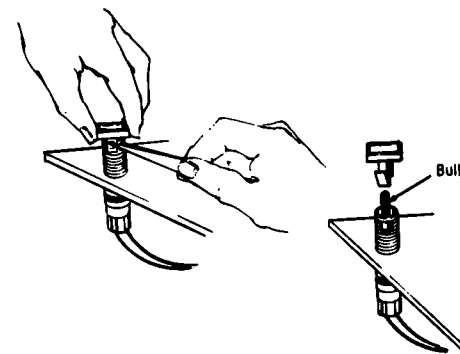

Figure 7-6. REMOVAL AND REPLACEMENT OF PUSHBUTTON SWITCH BULB.
4. See Figure 7-6. Unscrew the nut which secures the defective switch to the faceplate and slide the switch up through the front of the faceplate until the cutaways on the switch are visible.